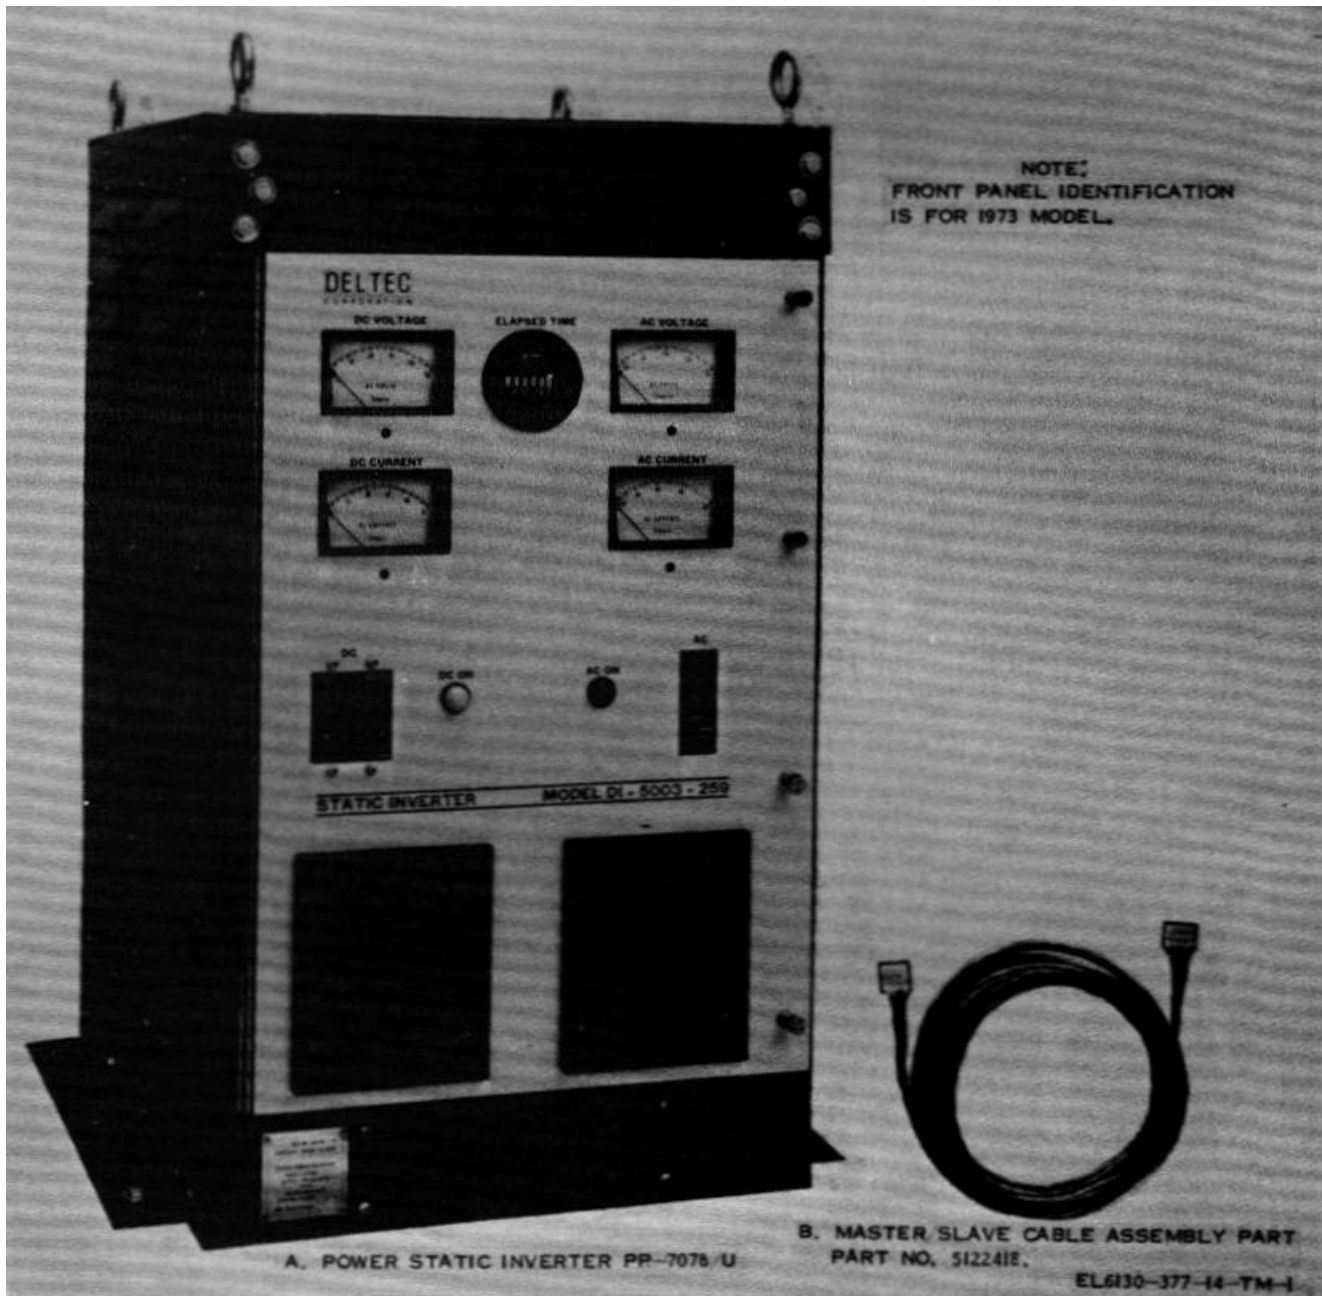

Figure 1-1. Inverter, Power, Static PP-7078/U and master/slave cable assembly.
a. This manual describes Inverter, Power, Static PP-7078/U (Deltec Model DI-5003-259) (fig. 1-1), hereafter referred to by the common name inverter, and contains its installation, operation, and instructions covering operator/organizational (chap. 4) and general support maintenance (chap. 6). It includes operation under normal and abnormal conditions, cleaning, performance verification and adjustment of the equipment, and replacement of parts available to operator and maintenance personnel. It also lists tools, materials, and test equipment required to perform the maintenance of the equipment. Repair parts and special tools lists (RPSTL) are provided in TM 11-6130-377-24P.
The inverter (fig. 1-1) is a general purpose, direct current (dc) to alternating current (ac), static inverter which provides a 120-volt alternating current, 60 Hz, 50 amperes (5 kW) power source for use in those locations where the primary power source is 110 volts direct current. Two inverters can be connected in parallel to provide twice the power output, 100 amperes (10kW), if required.